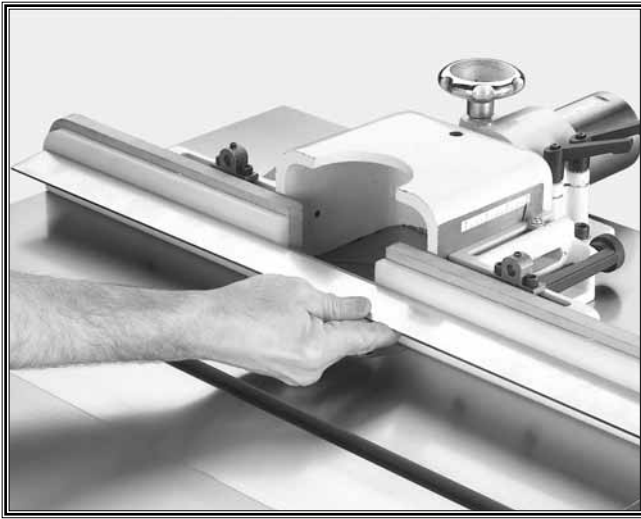

Figure 23. Use straightedge to check fence.
4. Hold the straightedge across both of the fence faces as shown in **Figure 23**.